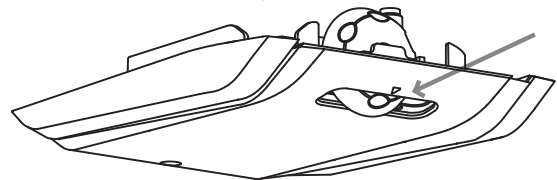

Fig. 1
- The thermostat unit for control of the appliance is located inside of the refrigerator compartment (Fig. 1). Rotate the thermostat knob of the thermostat beyond the "0" position. The light is on when the refrigerator door is open. Turning the knob to "0" completely turns off the product.